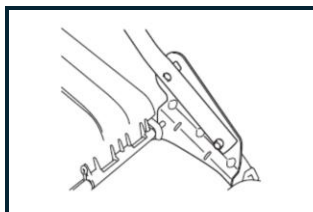

FIG 2A
1. Secure the lower handlebars to the unit body using the bolt, washer, and locking knob as shown in Figures 2A and 2B.